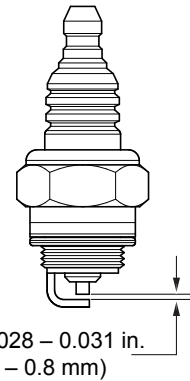

Figure 39. Spark Plug
- Remove the spark plug (Figure 39) and clean it with a wire brush if it is to be reused. Replace the spark plug if the insulator is cracked or chipped.
- Using a feeler gauge, adjust the spark plug gap (Figure 39). The gap should measure 0.028–0.031 inch (0.7–0.8 mm).